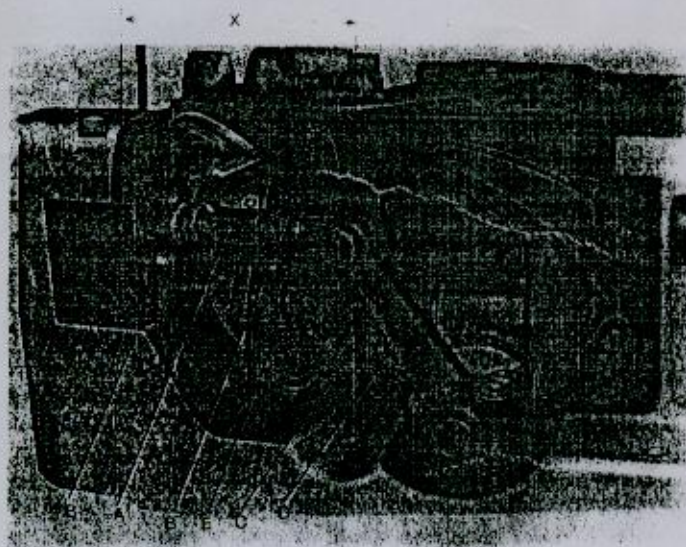
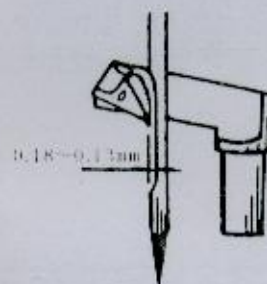

Fig. 4
Fig. 6
(1). First set the looper connecting rod (A, Fig. 4), so the distance (X, Fig. 4) between the center lines of the two ball joints is 69.8mm (2 3/4 in.). For adjustment loosen the two nuts (B) and turn connecting rod (A) forward or backward as required to obtain specified dimension. Retighten nuts (B). Caution: The left nut has a left hand thread.
(3). Rotate the machine pulley so that the looper moves from right to left. The looper point should pass as close as possible to the back of the needle without contacting, and clearance is 0.08-0.13mm (.003 to .005 in.) (Fig. 6). For adjustment, loosen screw (D, Fig. 4) in the looper eccentric fork (C) and turn rocker shaft (E) on the looper rocker with looper forward or backward as required. Retighten screw (D).